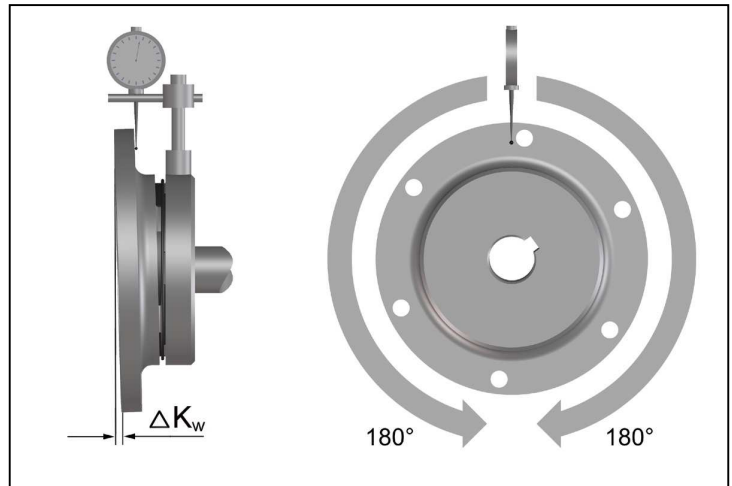

Fig. 6
- Measure on the face of the external diameter a complete rotation (360°). Determine in this case the greatest deviation  $\Delta K_{w1}$  as well as the smallest deviation  $\Delta K_{w2}$  (Figure 6).